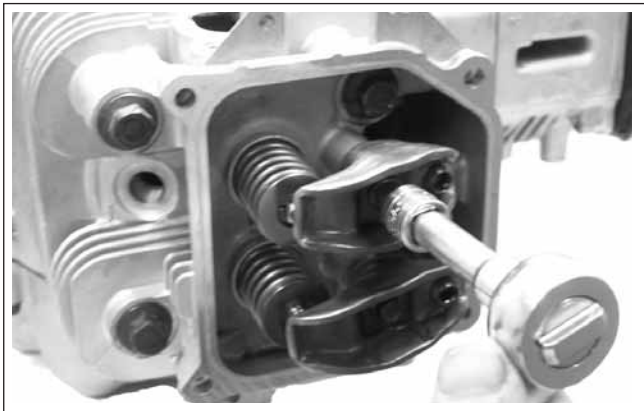

Figure 8-27. Loosening Pivot Screws (End Adjustment Style Shown).
2. Loosen the rocker arm pivot screws, or inner setscrews (T25 TORX) based on design, and back off the rocker arm adjusting nuts. See Figure 8-27.